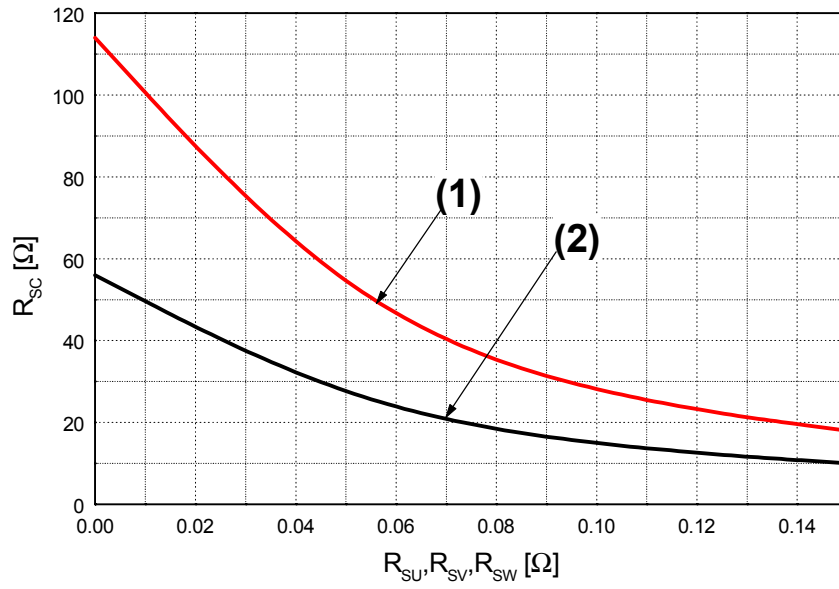

Fig. 6. R_{sc} Variation by change of Shunt Resistors (R_{SU}, R_{SV}, R_{SW}) for Short-Circuit Protection
- Short-circuit current protection is functioning only at the low-sides. It would be recommended that the value of the external sensing resistor (R_{SC}) should be selected around 56 Ω in order to make the SC trip-level of about 15A at the shunt resistors (R_{SU}, R_{SV}, R_{SW}) of 0Ω. For the detailed information about the relationship between the external sensing resistor (R_{SC}) and the shunt resistors (R_{SU}, R_{SV}, R_{SW}), please see Fig. 6.